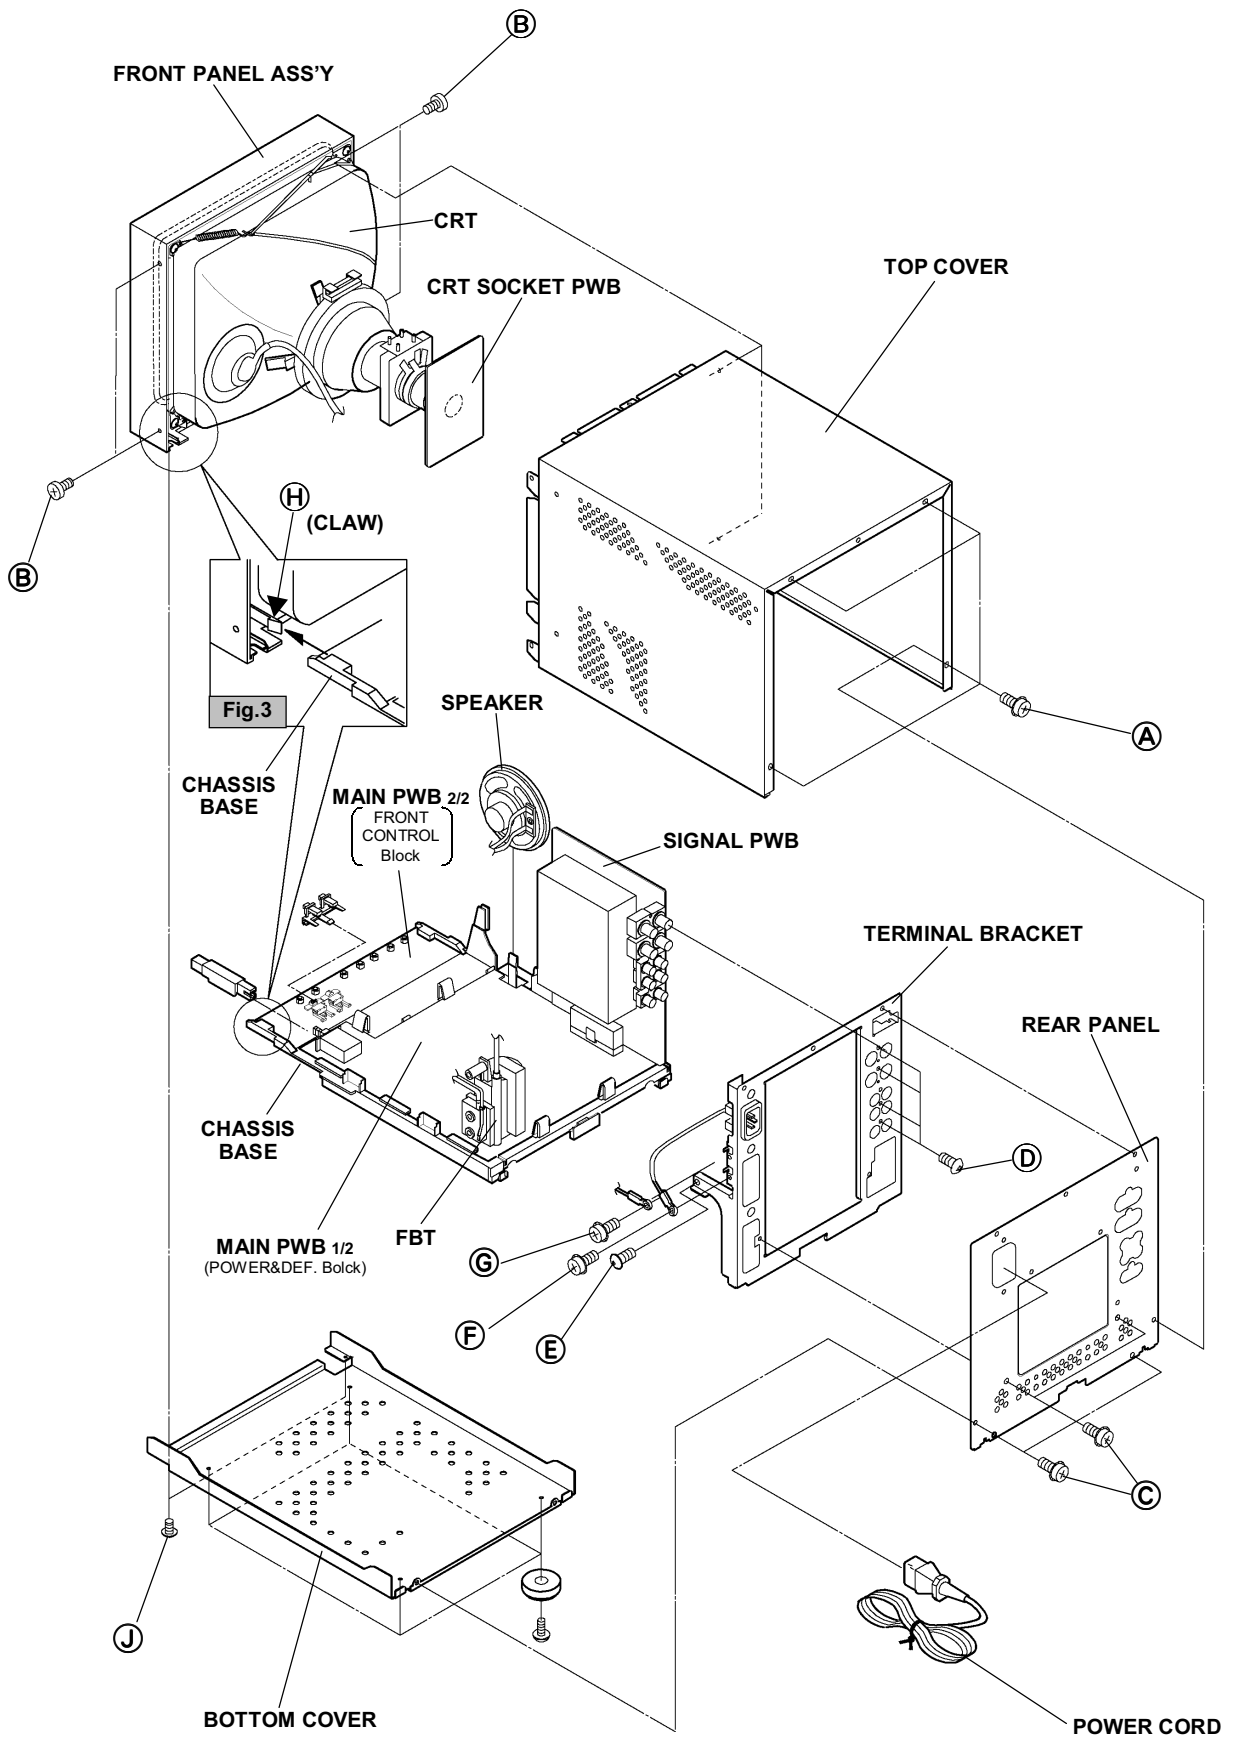

Fig.2
1. As shown in Fig.2, remove the 4 screws marked (A) .
2. Remove the 4 screws marked (B) .
2. As shown in the Fig.2, remove the 2 screws marked (J) .